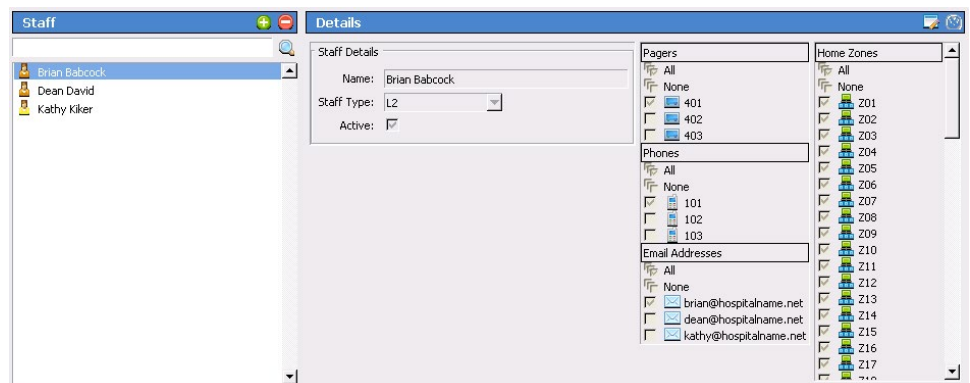

Figure 46: Event Monitor Staff Register
1. In the Event Monitor software, click the **Registers** button and then select **Staff** from the registers list. The **Staff** register (Figure 46) will appear.